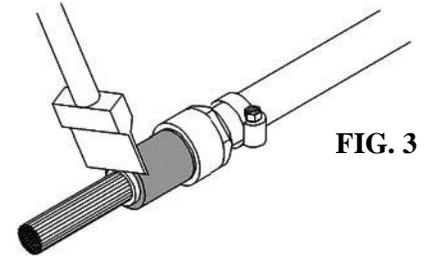

FIG. 3
4) Using a hot knife, cut the fiber as straight as possible using the fiber jacket as a guide. Do not saw or rock the knife blade back and forth. Hold steady pressure straight down on the fiber, tilting the blade of the hot knife at a slight angle, easing the pressure slightly while completing the cut **FIG. 3**.